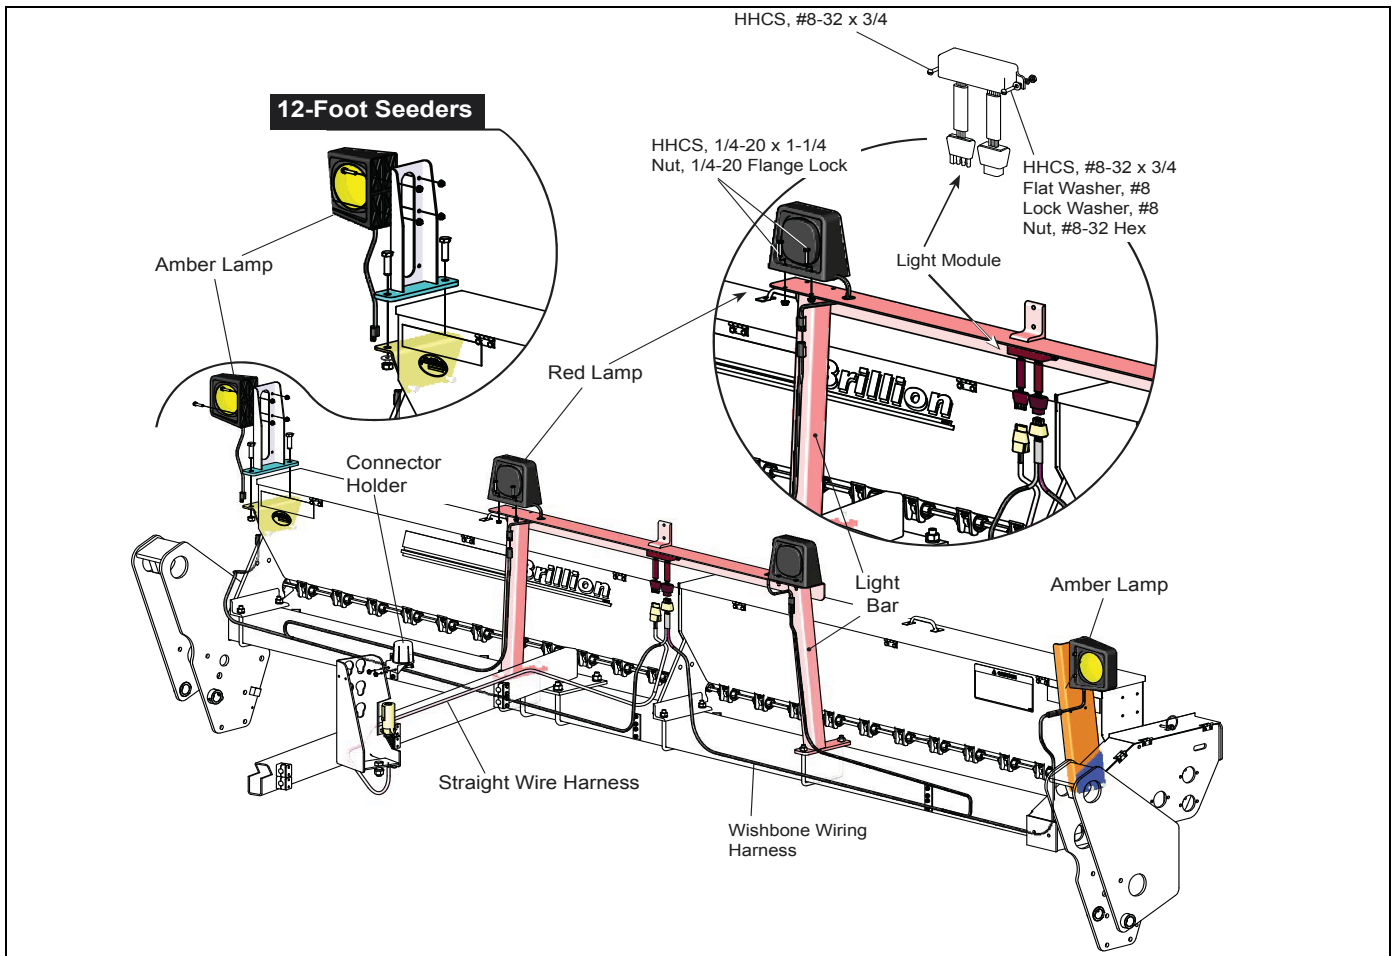

Figure 2-20: 12 Foot Lamp Assembly
2. Attach an amber lamp to the left and right hand seed box ends and a red lamp to the two plates toward the center of the light bar, with the red lighted side facing the rear of the implement. See Figure 2-20.